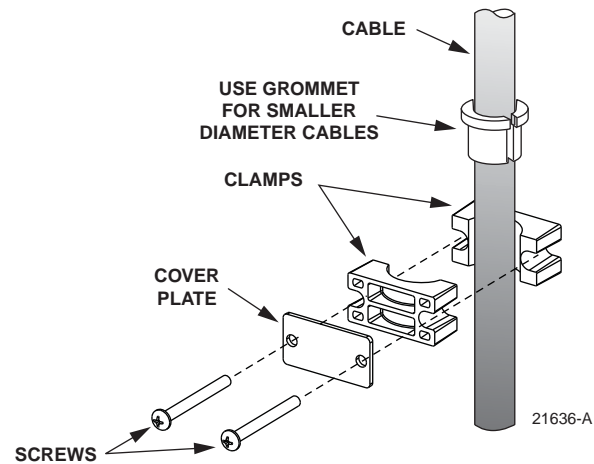

Figure 24. Cable Clamp Assembly
7. Assemble the cable clamp (and grommet if required) on the cable as shown in Figure 24 and secure the cable to the lower part of the cable clamp bracket.